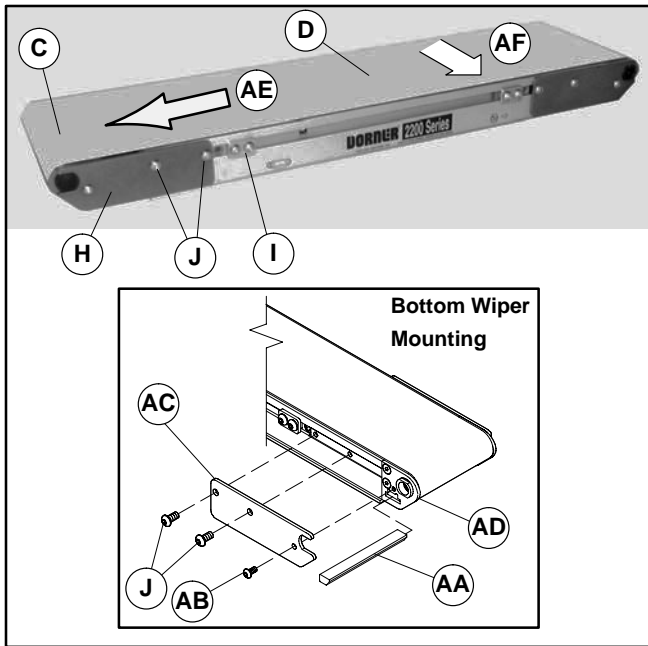

Figure 13
1. At tension end on both sides of conveyor, loosen belt tracking cam assemblies (I of Figure 13) (if equipped) and slide them toward middle of conveyor.
3. If removed, slide bottom wiper (AA of Figure 13) into slot in head plate (AD).
4. Install tail cover plate (AC) and three screws (J and AB) to secure bottom wiper at discharge end of conveyor. Securely tighten screws.
6. At tension end on both sides of conveyor, slide belt tracking cam assemblies (I) (if equipped) until tight against tail assembly (H).